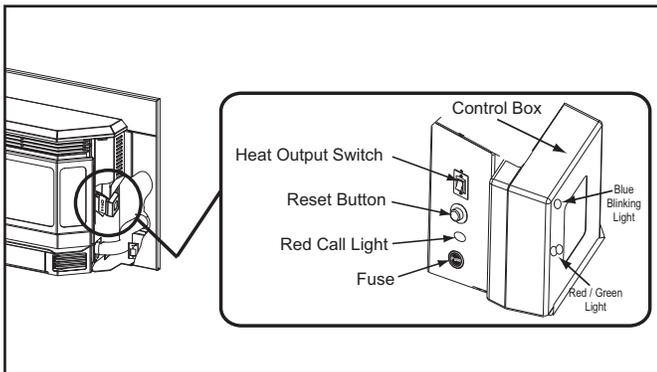

Figure 29.1
3. Locate the heat output control switch on the right side behind the right side panel. Set to the HIGH setting and then adjust the thermostat to its highest setting. The red call light will be on which is located on the right side behind the right side panel. This indicates the thermostat is calling for heat. **Figure 29.1.**